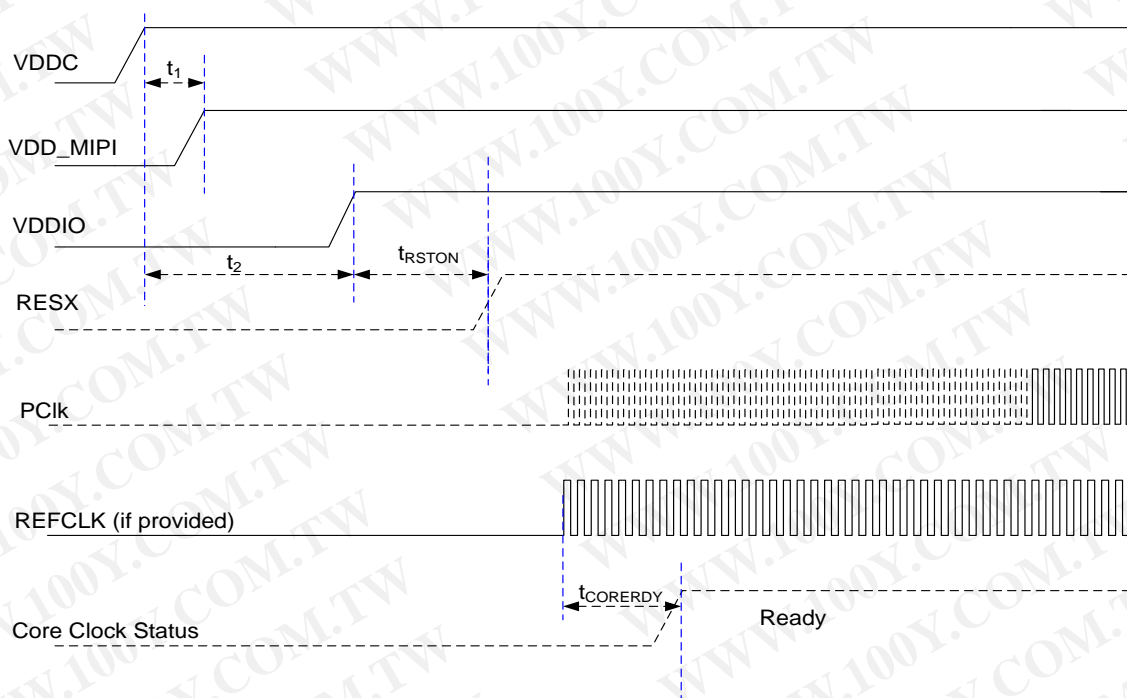

Figure 4-2 Power On Sequence With External RefClk Running
2. For voltage source, it is desired to turn on core power (1.2) source first, then Analog PHY and IO power as shown in Figure 4-2 Power On Sequence.
4. The timing parameters for Figure 4-2 are tabulated in Table 4-3.